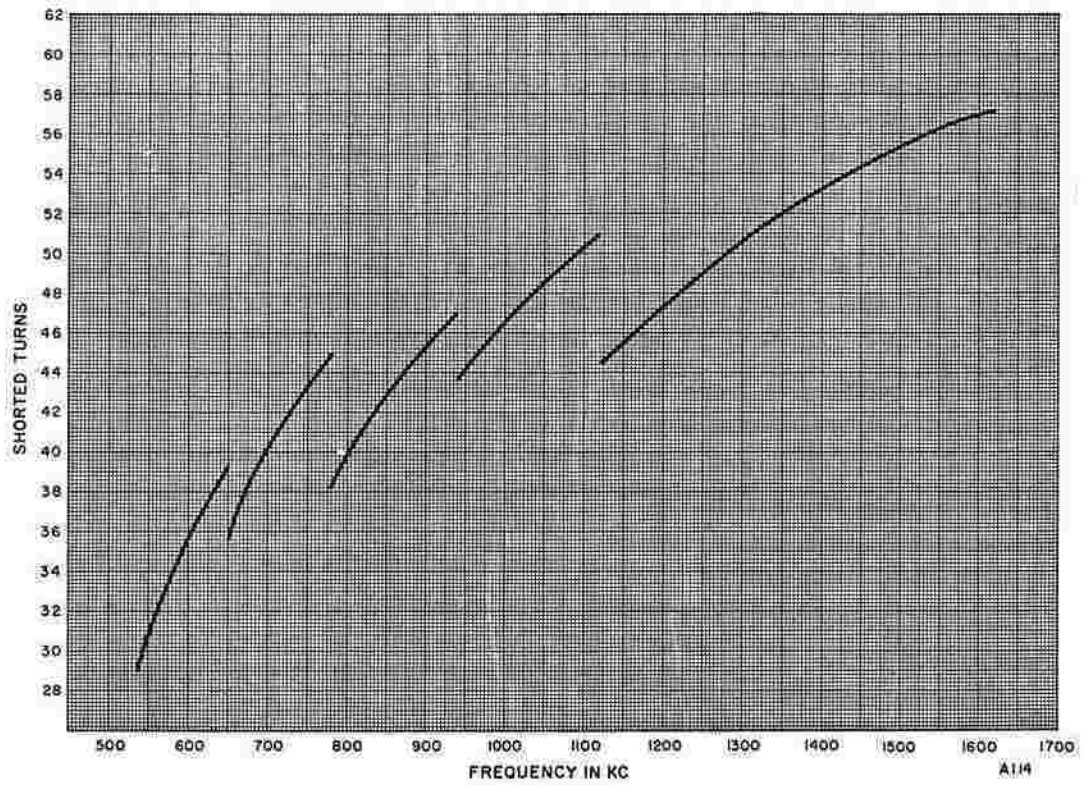

Figure 3. Tuning Chart, PA Tank, Coil 1L301 Jumper Connections
12. Refer to the Tuning Charts, figures 3 and 4, and adjust the shorting straps on the PA tank coil, 1L301, and the second harmonic trap coil, 1L304, according to the assigned frequency.